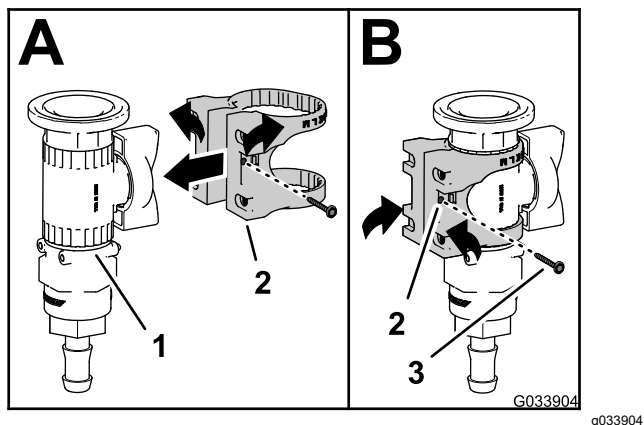

Figure 27
1. Assemble the valve mount onto the control valve as shown in A of Figure 27.
2. Secure the valve mount to the control valve with the flange-head screw (#6), and tighten the screw by hand (B of Figure 27).